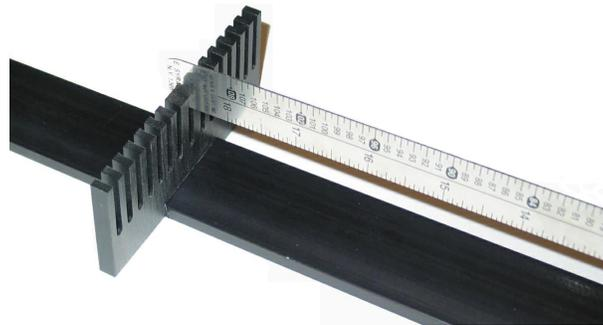

Figure 4.4: Flexible Link Tip Placed in the Middle Calibration Comb Slot
2. Mount the FLEXGAGE on the calibration stand that was shipped with the module. Place the tip in the middle tooth of the comb as seen in Figure 4.4 below.